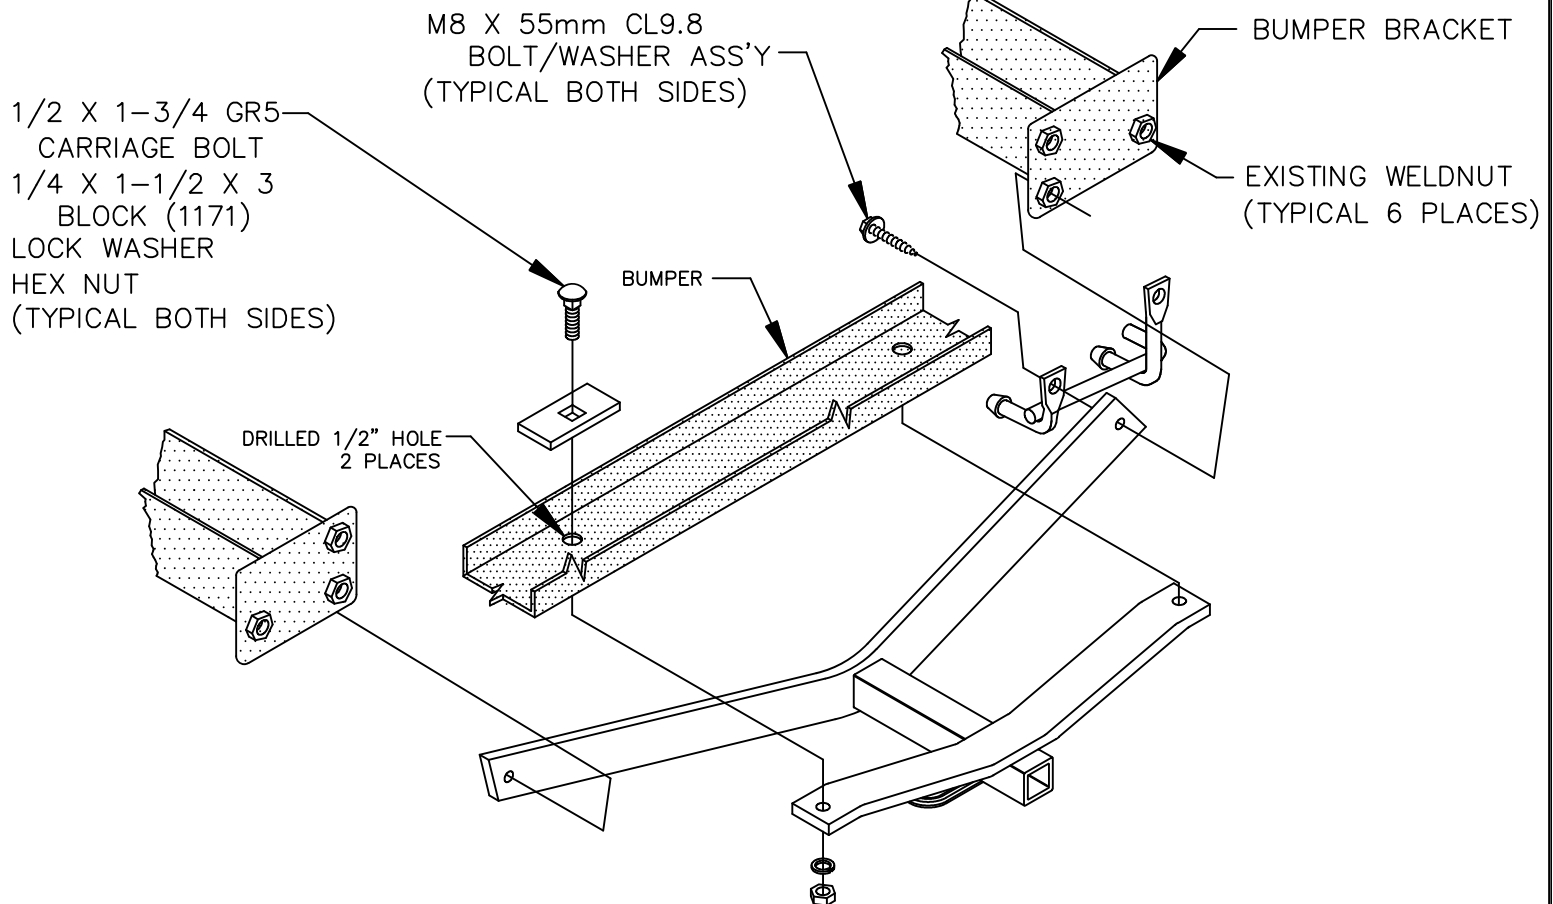

FIGURE 1
3. RAISE HITCH INTO POSITION AND LOOSELY INSTALL M8 FASTENERS PROVIDED, THRU EXHAUST HANGER, HITCH, AND BUMPER BRACKET(S), INTO THE EXISTING WELDNUT, AS SHOWN IN FIGURE 1.
5. INSTALL 1/2" FASTENERS THRU THE BLOCK (1171) AND BUMPER INTO THE HITCH WITH NUTS PROVIDED, AS SHOWN FIGURE 1.
6. REINSTALL EXHAUST SYSTEM(S) TO HANGER BRACKETS.
7. INSTALL EXHAUST HANGER FASTENERS AS SHOWN IN FIGURES 1 & 2.